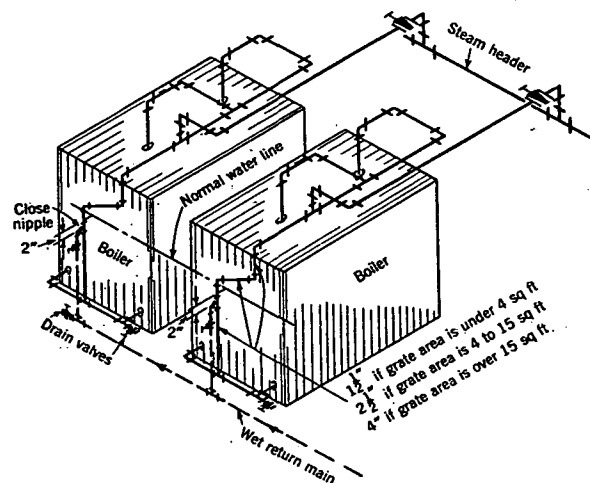

FIG. 5. THE HARTFORD RETURN CONNECTION
Fig. 5 shows this connection for a two-boiler installation. For a single boiler installation the connection is made as is indicated for one boiler. The essential features of construction of a Hartford Loop connection are: (1) A direct connection (made without valves) between the steam side of the boiler and the return side of the boiler, and (2) a close nipple connection about 2 in. below the normal boiler water line from the return main to the boiler steam and return balance connection.